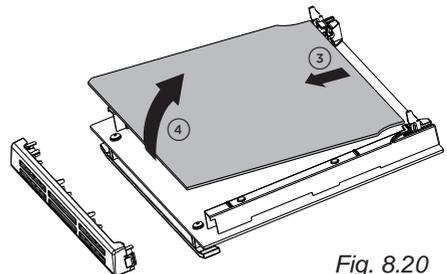

Fig. 8.20
- Gently lift and pull out the inner pane of glass by releasing it from the bottom retainers. Do not angle the pane too much as you may damage the glass (fig. 8.20).